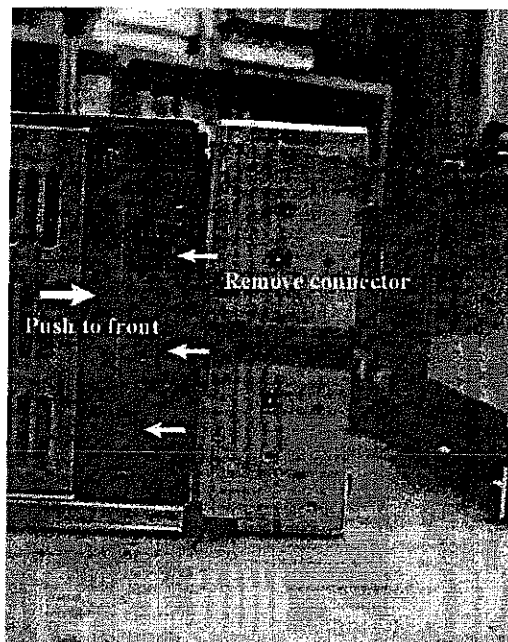

Figure 5-14 Location of Connectors
4. Remove connectors of output distribution cables, referring Figure 5-14.